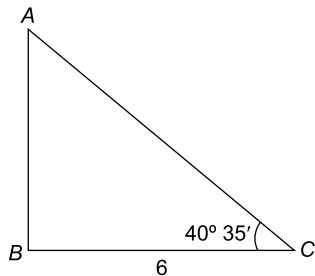

Figure RT1.3
- In triangle ABC in Figure RT1.3, find lengths AB and AC , correct to 2 decimal places